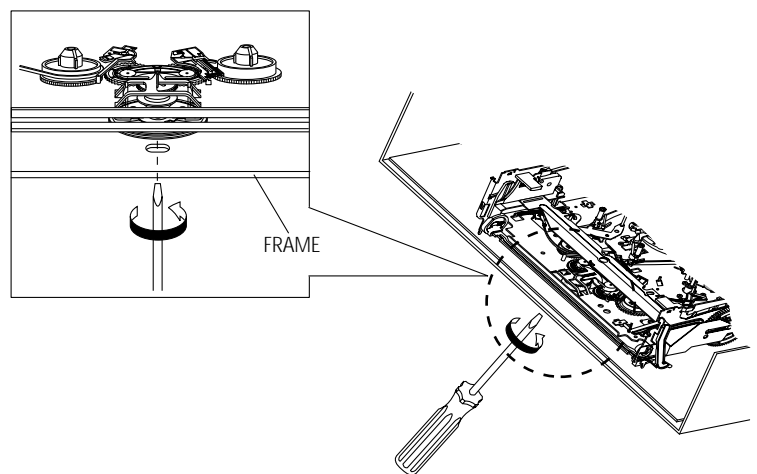

Fig. 3
- 3) When Slider S, T are approached in the position of unloading, rotate holder Clutch counterclockwise after inserting screw driver in the hole of frame's bottom in order to wind the unwounded tape. (Refer to Fig. 3)